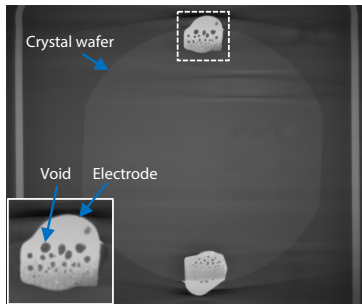

Fig. 4 Cross-Sectional Image (Electrode Parts)
Fig. 4 is a cross-sectional image showing the electrode parts of the crystal wafer (cross-sectional image (1) in Fig. 3). Multiple voids can be observed in the electrode parts on both side of the crystal wafer.